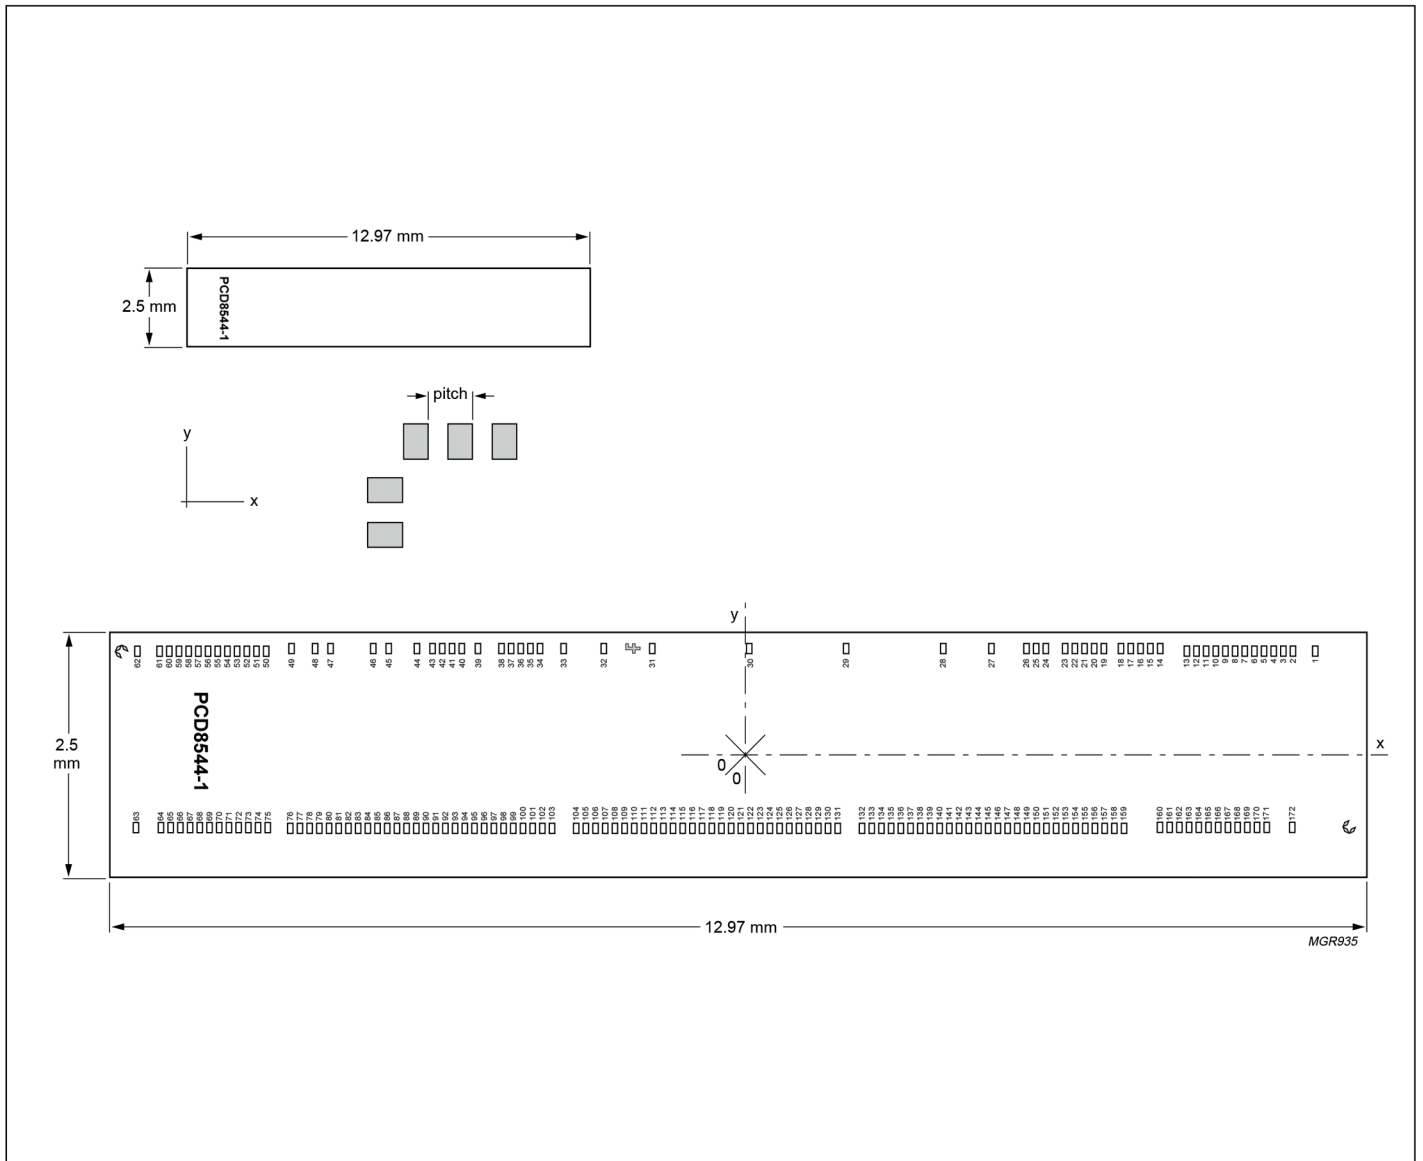

Figure 18: Bonding pad locations
13.1 Bonding pad information (see Figure 18)
All X/Y coordinates are referenced to the centre of chip (see Figure 18)